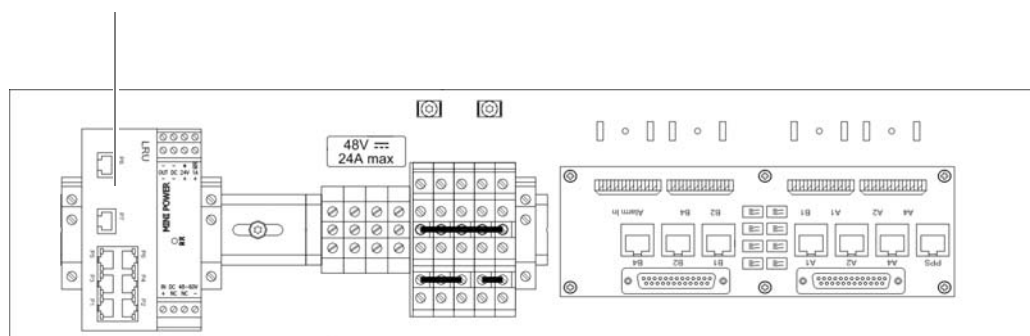

Figure 5.11 LRU on the top hat rail
Figure 5.11 shows the position of the LRU on the top hat rail .
2. Plug the LRU onto the top hat rail from above, refer to Figure 5.11 on page 102. The catch must snap in audibly.